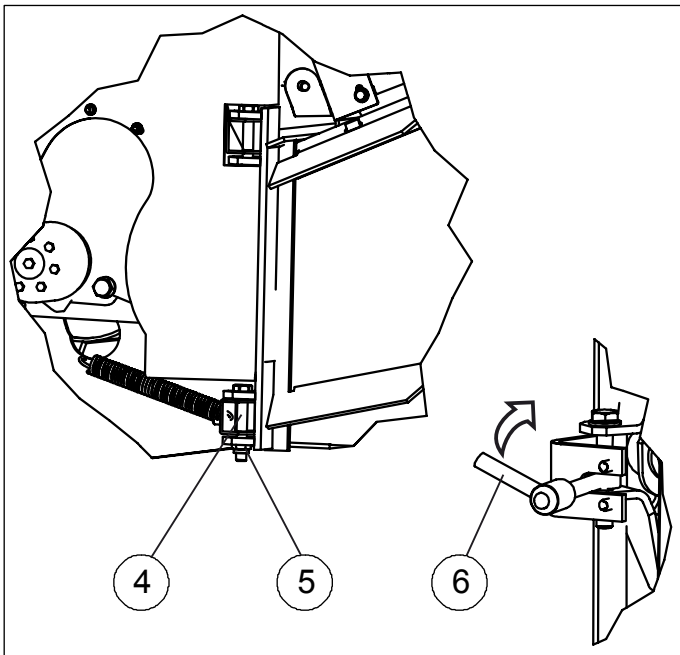

Fig 4a. Installation of the feed chute
2. Attach the feed chute to the body of the feeder using two MB hinged screws (4) and clasp nuts (5). Lock the feed funnel into the working position (6), see Fig 4a.